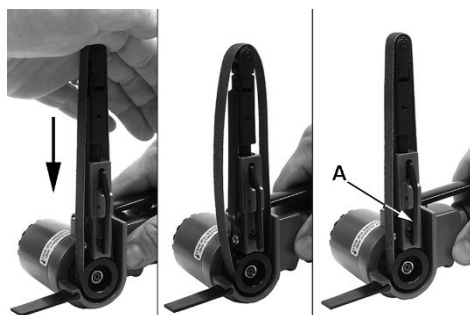

Figure 4: JAT-750
Insert hex wrench into hex socket cap screw and turn clockwise or counterclockwise until belt is centered on idle pulley. See Figure 4.
3. Steady sander with one hand while pushing down on the idle wheel with other hand, until assembly locks in place. See Figure 4.
5. Press tension lever (A, Figure 4) to engage tension.